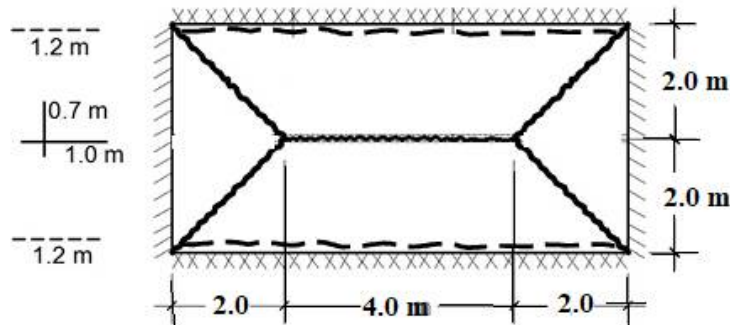

Figure 4(c)
- 4b) What are the guidelines for predicting the yield line pattern? (6) CO4
- 4c) The two-way reinforced concrete slab is supported as shown in Figure 4(c). Determine the ultimate moment using yield line theory when the slab is subjected to a load of 10 kN/m^2 . (10) CO4